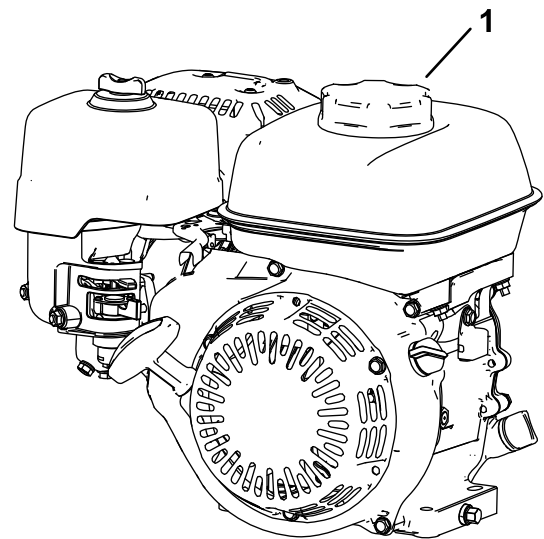

Figure 14
1. Clean around the fuel-tank cap and remove the cap from the tank (Figure 14). Fill the fuel tank to the bottom of the tank-neck opening; refer to your engine *Operator's Manual*.